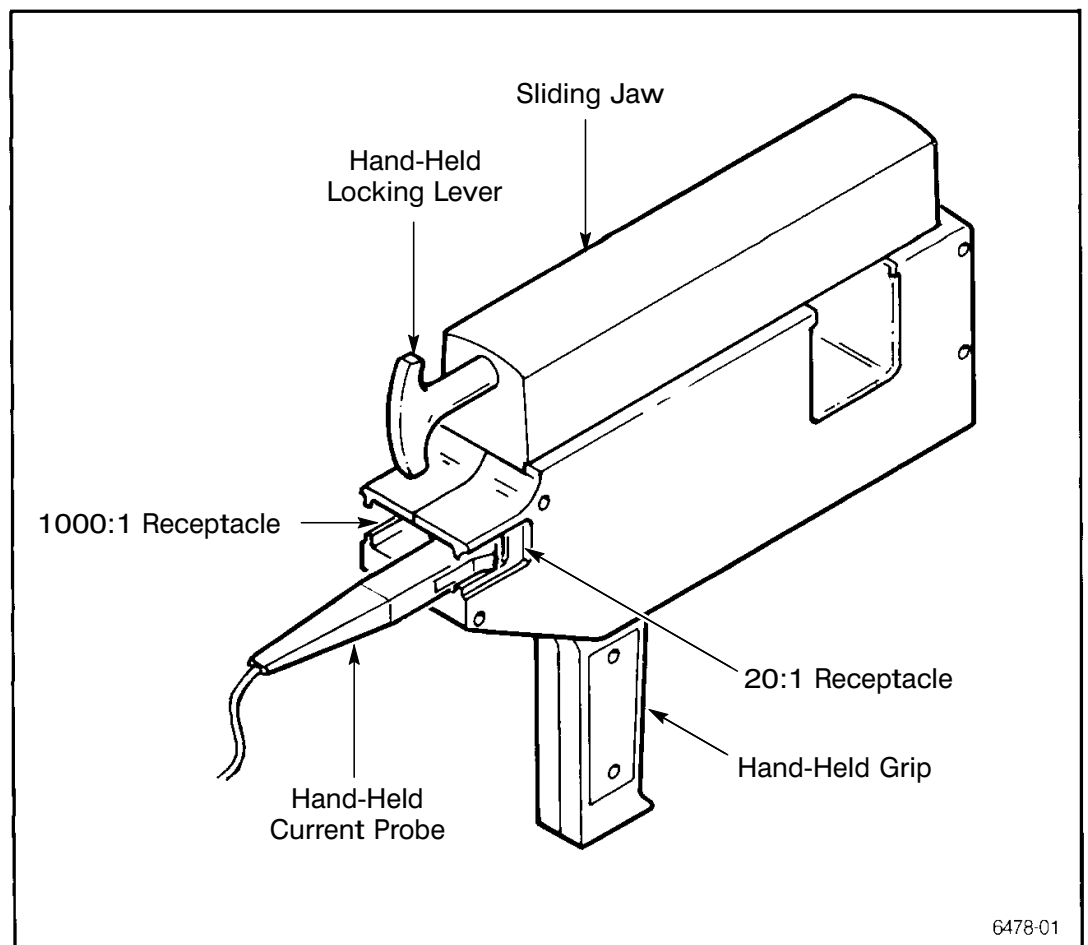

Fig. 2-1. The CT-4 with current probe attached.
At the rear of the CT-4 are two probe receptacles for two different current ranges. The A6302, for example, has a current range of 20 mA/div to 100 A/div in the 20:1 receptacle (assuming the current probe normal range is 1 mA/div to 5 A/div) and 1 A/div to 5,000 A/div in the 1000:1 receptacle. See Fig. 2-1.
4. Press the probe slider fully forward to ensure that the core is closed. See Fig. 2-1. Always insert the current probe so that the probe slider faces outward from the CT-4. This will ensure correct current polarity.
When measuring bare conductors, touch the CT-4 and current probe at the “hand-held” areas only. Refer to Fig. 2-1